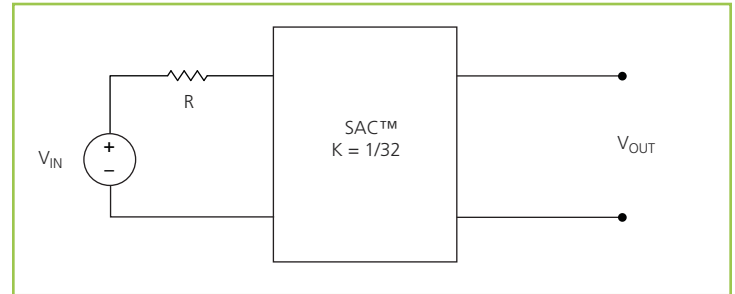

Figure 15 — $K = 1/32$ Sine Amplitude Converter™ with series input resistor
The use of DC voltage transformation provides additional interesting attributes. Assuming that $R_{OUT} = 0 \Omega$ and $I_Q = 0 A$, Eq. (3) now becomes Eq. (1) and is essentially load independent, resistor R is now placed in series with V_{IN} as shown in Figure 15.
Assuming that $R = 1 \Omega$, the effective R as seen from the secondary side is $0.98 \text{ m}\Omega$, with $K = 1/32$ as shown in Figure 15.